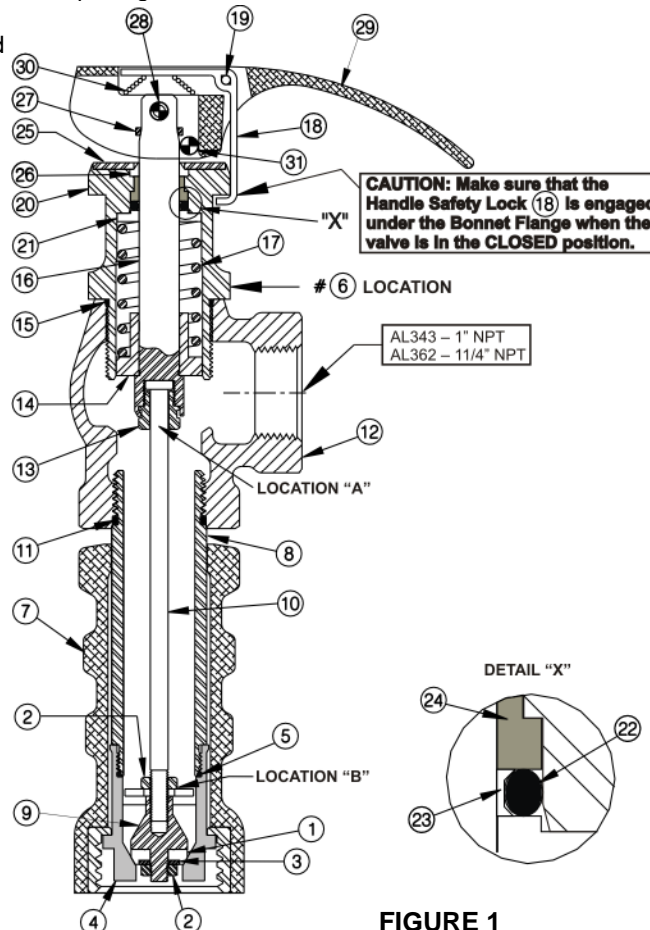

FIGURE 1
Removal of Valve for Repair or Replacement (Refer to Figure 1 for Item Numbers)
Disassembly Procedure for Repair (Refer to Figure 1 for Item Numbers)
1. At Location "A" of FIGURE 1, the Stem Extension 10 must rotate freely inside the Stem Extension Guide Nut 13 and have a small amount of end play inside the bore of the Stem 16. This interface is mechanically crimped and cannot be disassembled.
2. At Location "B" of FIGURE 1, the Disc Holder 9 should be shouldered snug against the Hex Jam Nut 2.
Assembly Procedure (Refer to Figure 1 for Item Numbers)